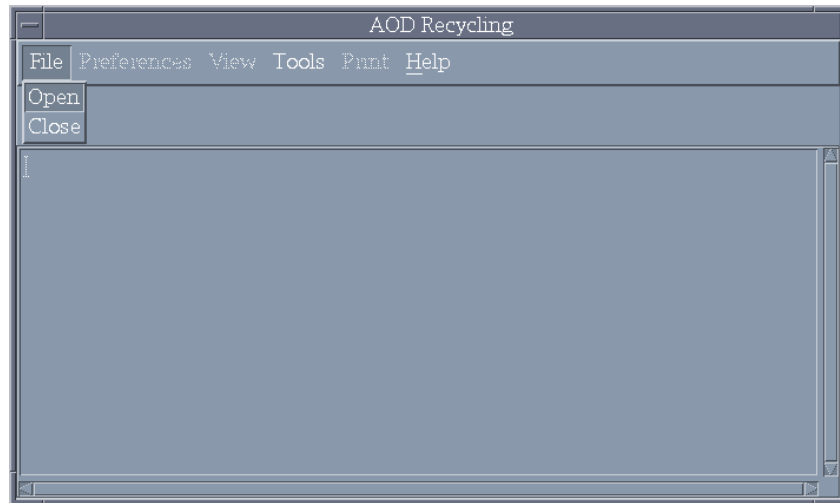

Fig. 35 – AOD recycle menu with file options
**3.3.6.1.5 AOD Recycle** — This option allows remaining space on a previously used AOD to be used for new AOD images. **Note:** any preexisting images on the AOD are lost during the recycle operation, and one superdirectory will be lost. MMC invokes the **AOD Recycling Window** (Fig. 35).